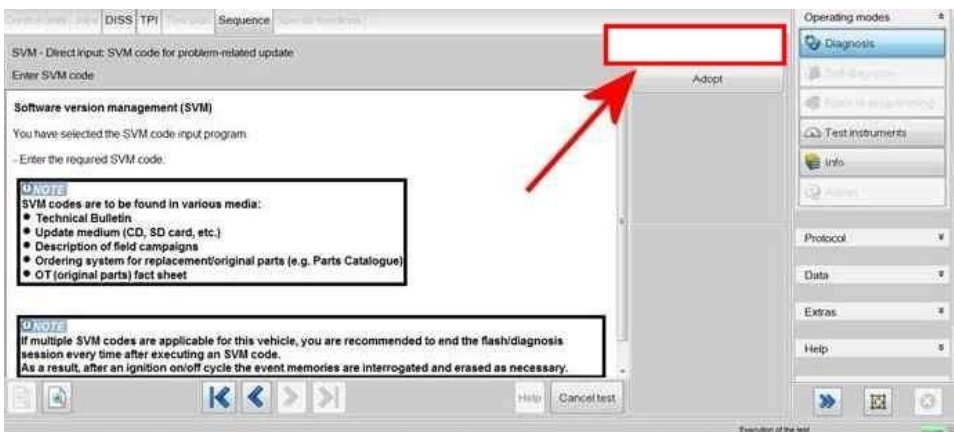

Figure 8
4) On the next screen enter SVM code **4V1BIL53** and select Adopt (Figure 8)